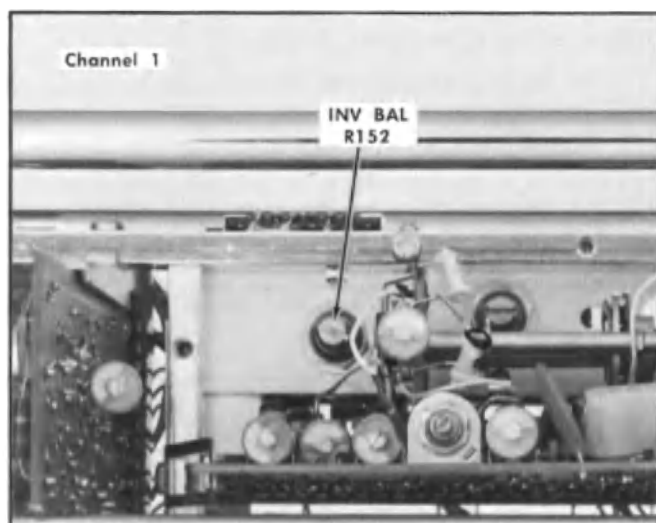

Fig. 7-14. Location of Channel 1 INV BAL adjustment.
- f. ADJUST—Channel 1 INV BAL control (see Fig. 7-14) to vertically position the trace to the point noted in step c.